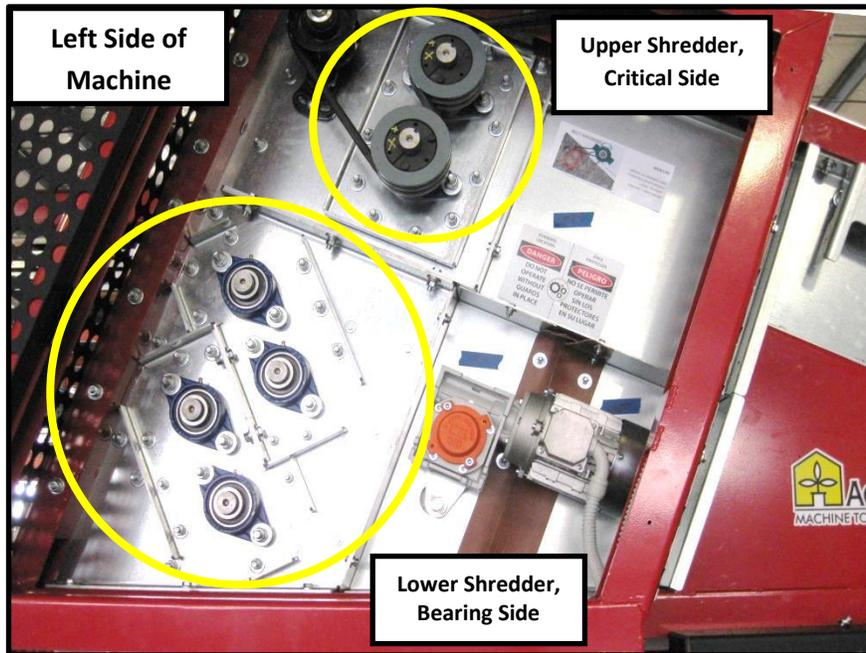

Figure 3
6. Proceed to the left side of machine. Locate lower shredder roller shafts, bearing side. These are the four (4) shafts near the middle of the machine. **See Figure 3.**
7. Loosen the two (2) set screws in each bearing collar.